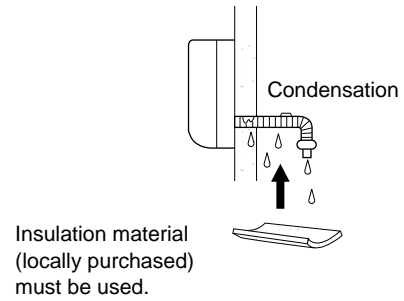

Fig. 29
- c) If the drain hose will run in the room, insulate the hose with insulation* so that chilled condensation will not damage furniture or floors. (Fig. 29)